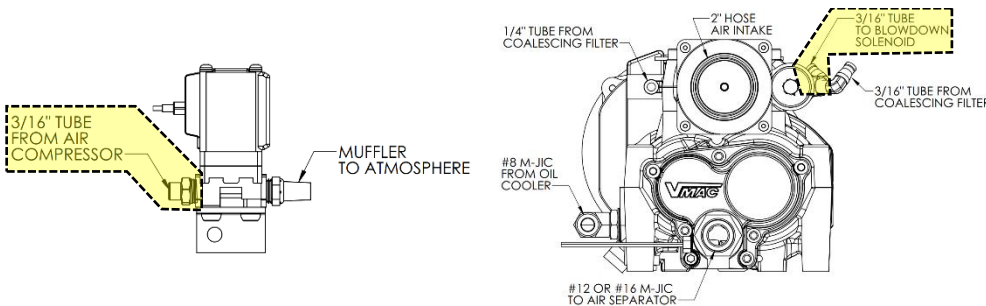

Figure 8 – Blowdown Line Connection
- Connect the blowdown line from the rear top right side of the air compressor to the left side of the blowdown solenoid (Figure 8). The tube size and type is 3/16" PTFE tube with specialized wall thickness and formula to withstand the high pressures, temperatures, and oil used.